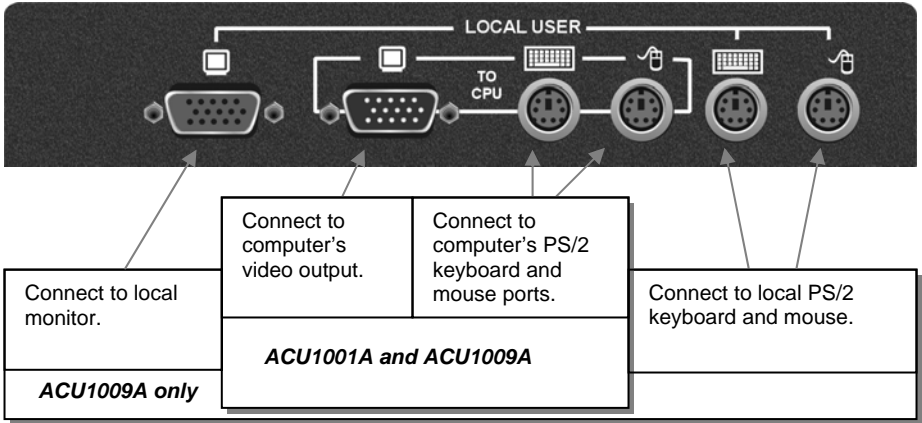
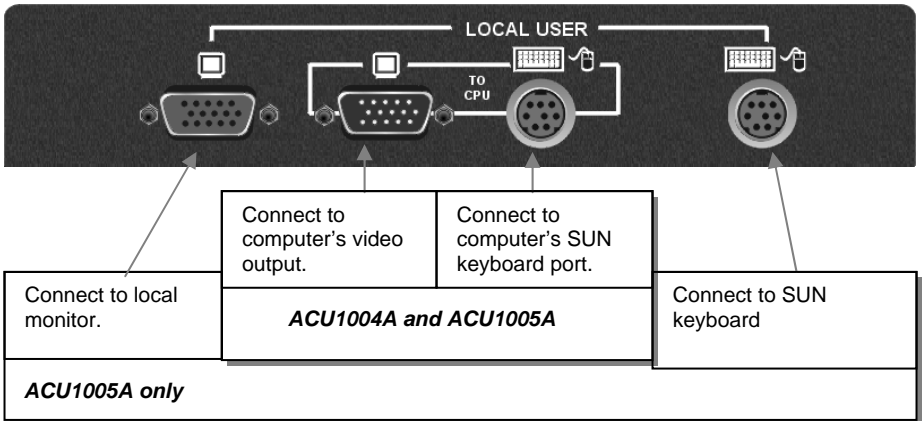
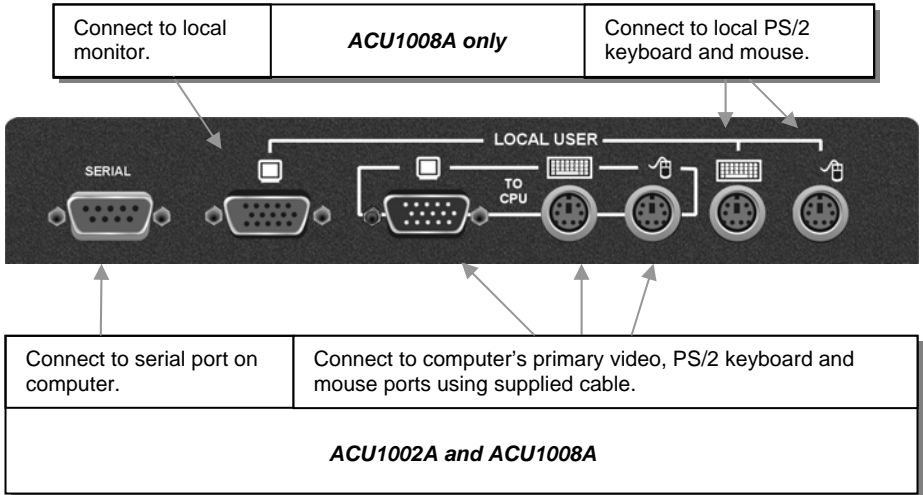

Figure 7 Standard Local Unit - rear view
Figure 8 SUN Local Unit - rear view
Figure 9 Serial Local Unit - rear view
2. Using the supplied CPU KVM cable(s), connect the keyboard, monitor(s) and mouse connectors on the computer (or KVM switch) to the corresponding connectors on the Local Unit as shown in Figure 7 (Standard), Figure 8 (SUN) or Figure 9 (Serial).